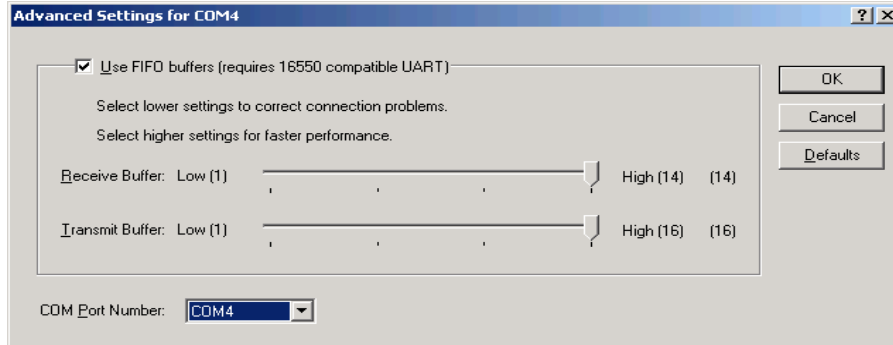

Figure 8-232 Advanced Settings for COM4
- 12.) Specify COM port number is COM4. as shown in refer to Figure 8-232.